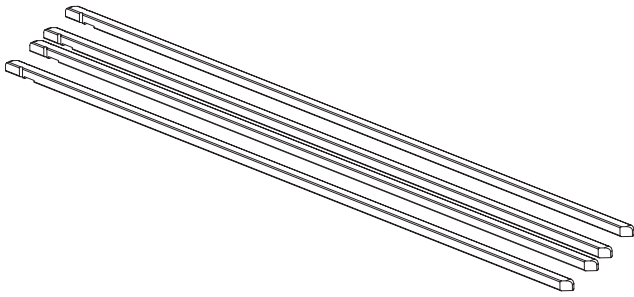

Figure 23
- Place wear strips (**Figure 23**) in COP tank.